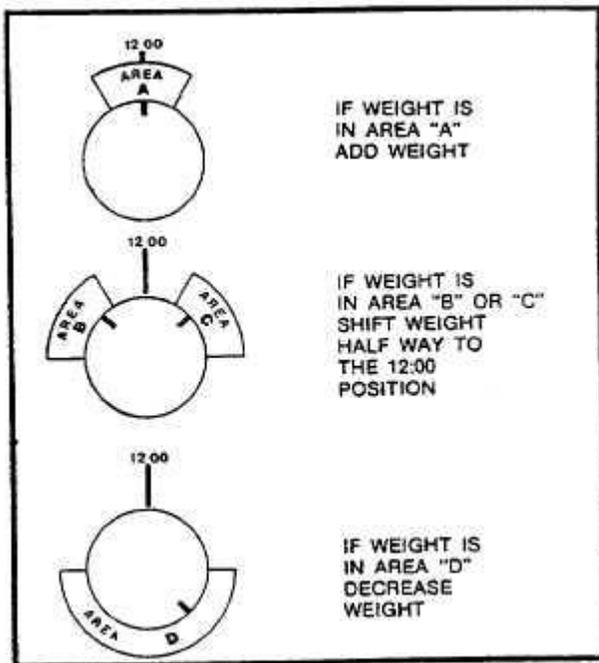

Figure 8. Weight Positioning and Movement
14. Repeat steps 8 through 13, except observe position of INITIAL WEIGHT, not reference mark. Refer to Figure 8 for amount of weight change and placement of weight.
*NOTE :* Make sure vibration pickup is still in contact with lower control arm after installing weights. Figure 8. Weight Positioning and Movement